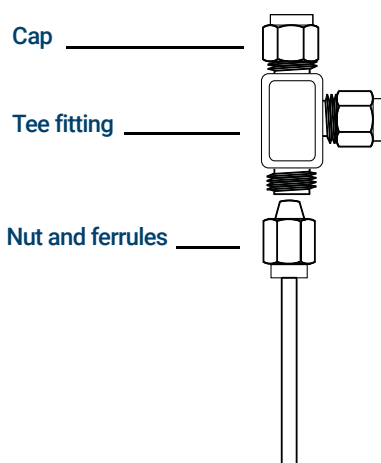

Figure 29. Swagelok tee
- 1 Cut the tubing where you want to install the Tee. Connect the tubing and Tee with a Swagelok fitting. See Figure 29.